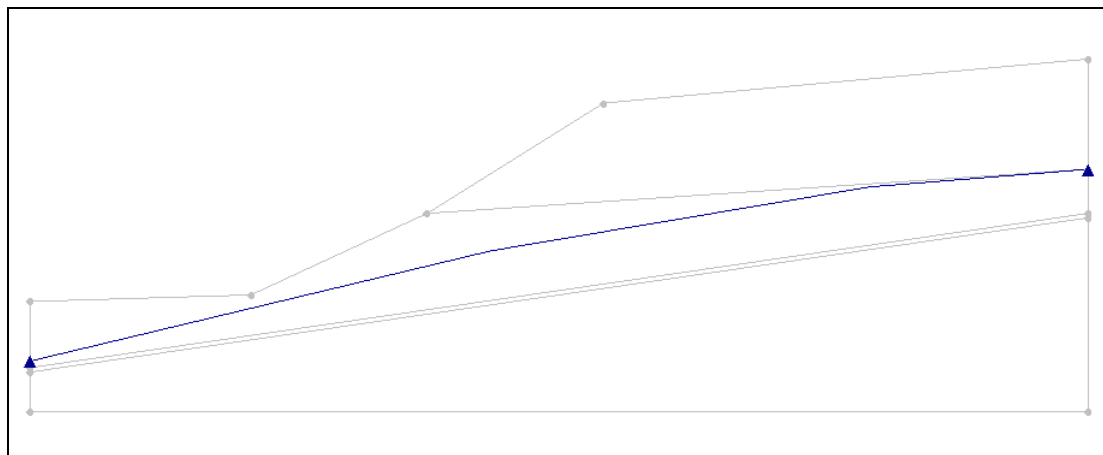

Figure 3. Piezometric line.
In this model we use a piezometric line to define the pore water pressures (Figure 3). We'll create it now.
2. Connect the points to form the arcs shown in Figure 3.